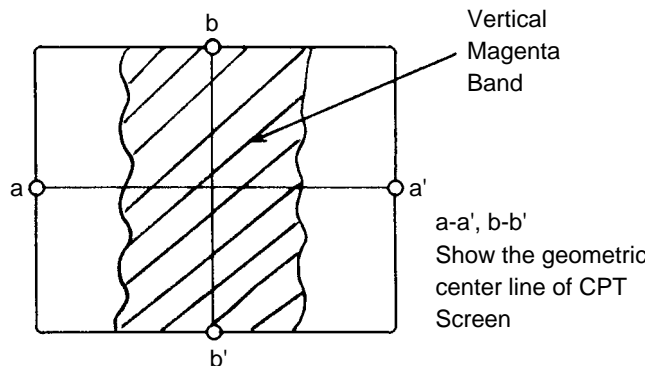
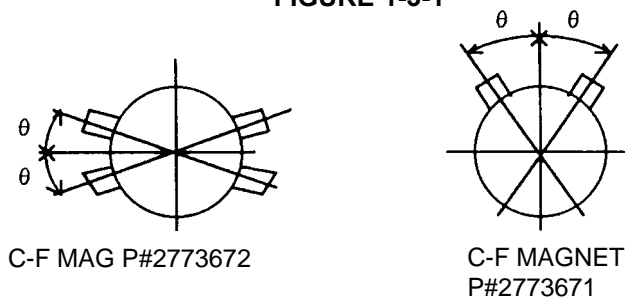

FIGURE 1-3-1
FIGURE 1-3-2
- (2) Adjust Focus coarsely according to Focus Adjustment page 40.
- (3) Adjust Convergence coarsely according to item 1-4 and 1-5. (Page 39~40)
- (4) Receive Circle Pattern signal and check that Contrast and Brightness are maximum.
- (5) Receive magenta signal. When the magenta signal is not available, short-circuit between the base and emitter of Q855 and set to magenta.
- (6) Press DY fully against CPT funnel and turn the purity magnet so that the vertical magenta band comes to the center of the picture (Fig. 1-3-1). Check that color unevenness of both sides are approximately equal at this time. The openings of the purity magnet should be symmetric (Fig. 1-3-2).